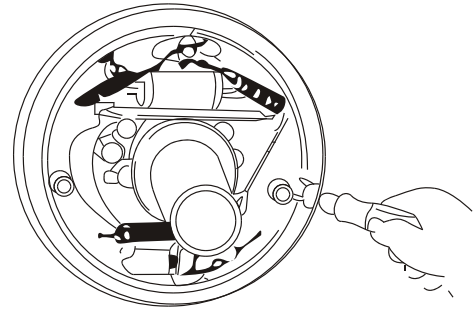

Fig.5-7
(1) Remove the secondary shoe hold-down spring, adjuster lever, adjuster and return spring. (See Fig.5-7)